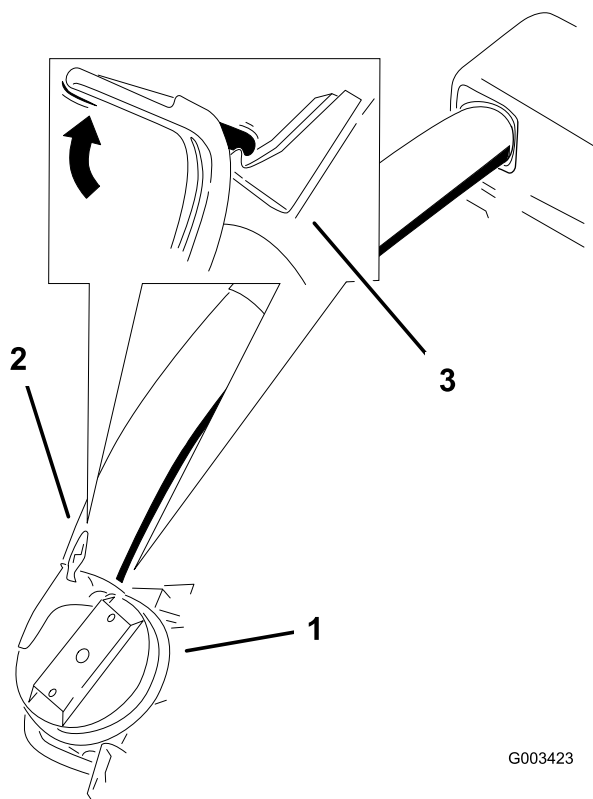

Figure 23
8. Slide the lower tube onto the boot and latch them together (Figure 23).